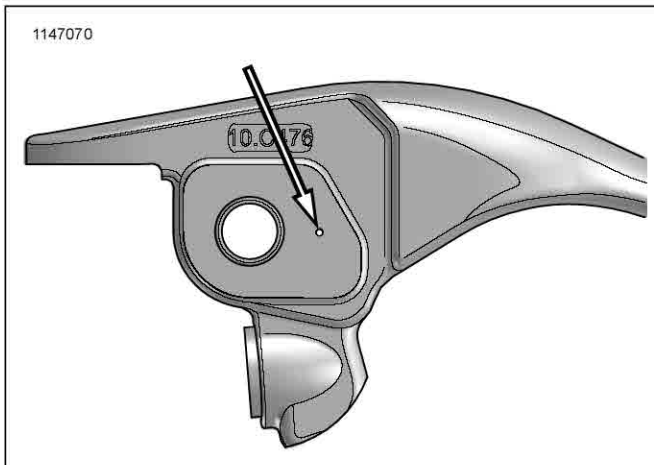

Figure 1. Machined Dot
3. Refer to Figure 1. Inspect clutch lever for machined dot